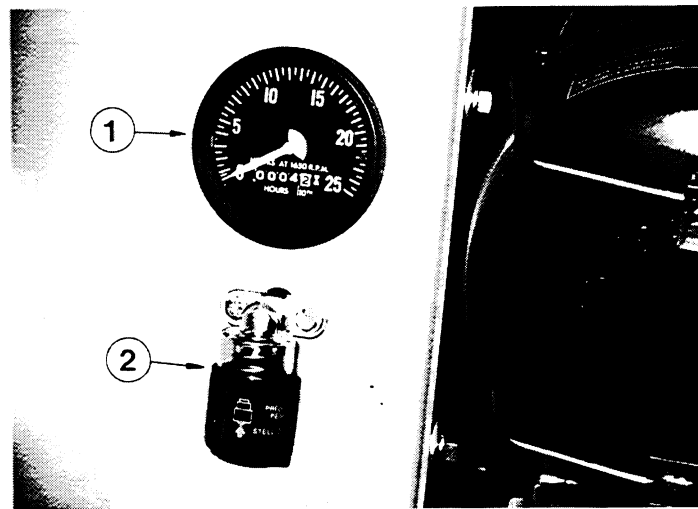

Fig. 20
**TACHOMETER:** The engine tachometer is located on the front panel above the restriction indicator (see figure 20). The gauge indicates engine speed in hundreds of rpm's. An engine hourmeter is located in the lower half of the gauge which indicates hours and tenths of hours the engine has run.
**AIR CLEANER RESTRICTION INDICATOR:** This gauge indicates the amount of dirt and dust in the air cleaner. When the red band shows full in the window, stop the engine and service the air cleaner elements. After the air cleaner has been serviced, push in the reset button. See figure 20.